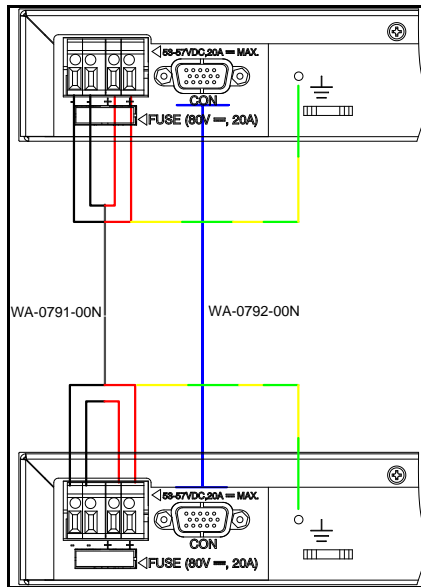

Figure 8-2: PD-5524G Rear Panel connections
3. Connect DC cable; two red wires (+), two black wires(-), and one yellow/green wire, as shown in Figure 8-2.